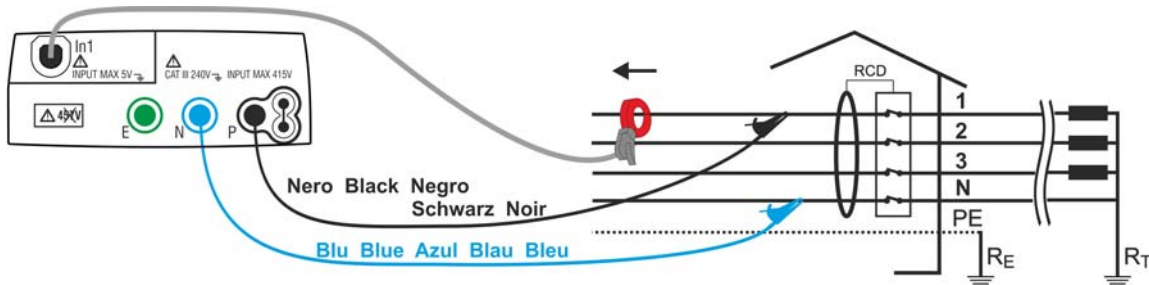

Fig. 31: Instrument connection for single-phase, double-phase or three-phase measurements
4. Staple the phase to be tested. Insert both the **black** and **blue** connectors of the single cables into the relative **P** and **N** instrument input leads. Insert the relative alligator clips into the free end of the cables and connect the test leads to the test ends of the conductor to be tested as in Fig. 31. The arrow on the clamp must point in the direction of the power flow, i.e. from generator to load